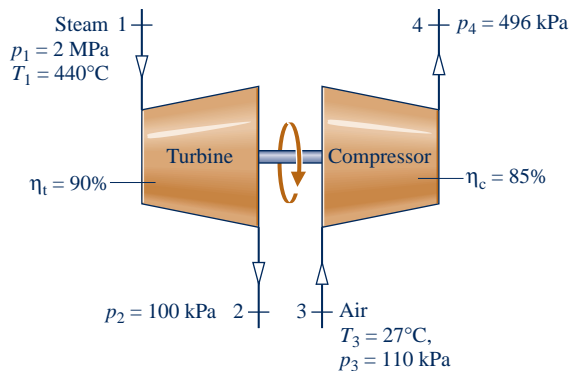

Fig. P6.164
- 6.164** As shown in Fig. P6.164, a steam turbine having an isentropic turbine efficiency of 90% drives an air compressor having an isentropic compressor efficiency of 85%. Steady-state operating data are provided on the figure. Assume the